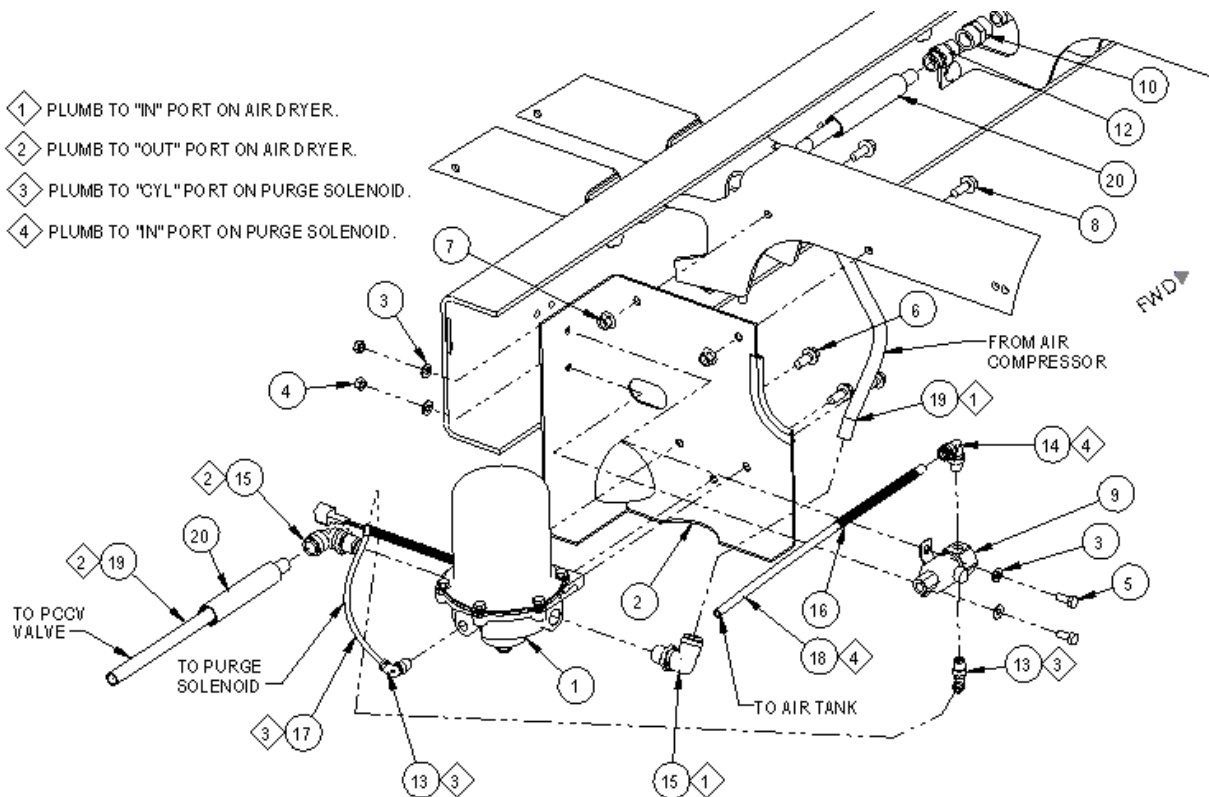

FIG. 4-2
13. Install purge solenoid on to air dryer bracket utilizing 5/16-18 hardware (items 5, 3, and 4). Torque nuts to 12 lbs.-ft. as shown in FIG. 4-2.
14. Install supplied air dryer onto bracket utilizing M10-1.25 hardware (item 6). Torque bolts to 14 lbs.-ft. Refer to FIG. 4-2.
15. Install assembled bracket to cross member utilizing 3/8-16 hardware (items 7 & 8). Torque nuts to 31 lbs.-ft. Refer to FIG. 4-2.
16. Connect electrical extension harness 3883-GG5-001 to solenoid (item 9) and dryer (item 1). Refer to FIG. 4-2. Connect other end of electrical harness to existing dryer connector at rear of bus by air tanks.
17. Connect airline and loom (item 19 & 20) from pressure control check valve (PCCV) on the air tank to the 'OUT' port of the air dryer (item 1). Refer to FIG. 4-2. Connect airline (item 17) from air dryer (item 1) to 'CYL' port of solenoid (item 9). Refer to FIG. 4-2. Connect airline and loom (item 18 & 16) from air tank to 'IN' port of solenoid (item 9). Refer to FIG. 4-2. Route airline and loom (19 & 20) from air compressor line coupling (item 12) around dryer bracket (item 2) and connect to 'IN' port of the air dryer (item 1). Refer to FIG. 4-2.